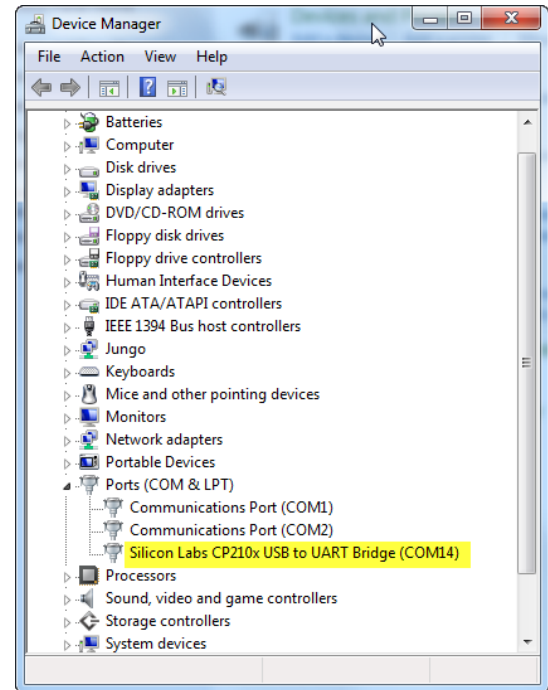

Figure 10 -- Device Manager showing COM Port for A-910 Dongle
5. Locate **SILICONLABS CP210x to UART Bridge (COM x)** as shown in Figure 10.